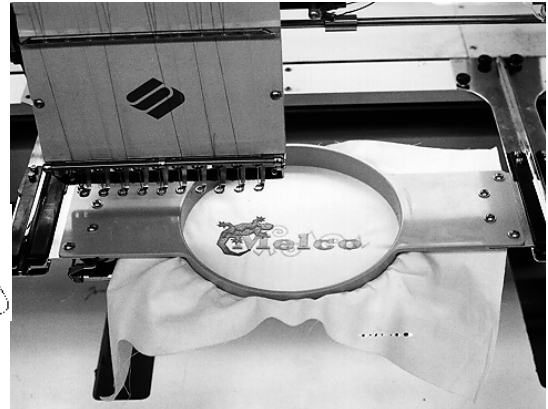

Figure 3-8
3. Attach the tubular frame support arms to the rear portion of the sash frame. Use four thumb screws for each support arm (refer to Figure 3-8).